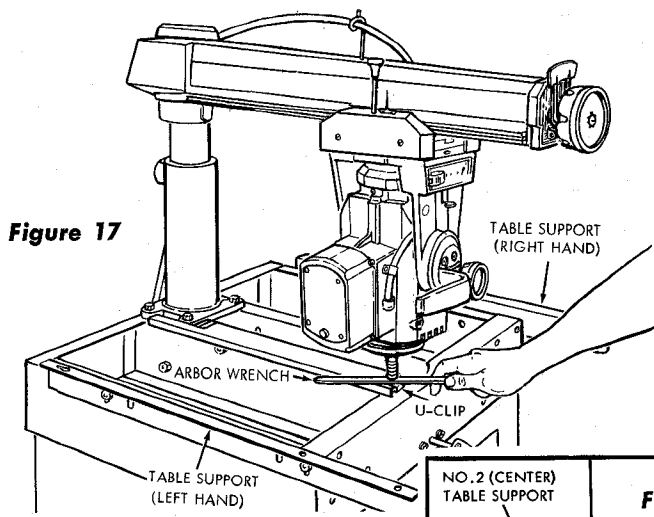
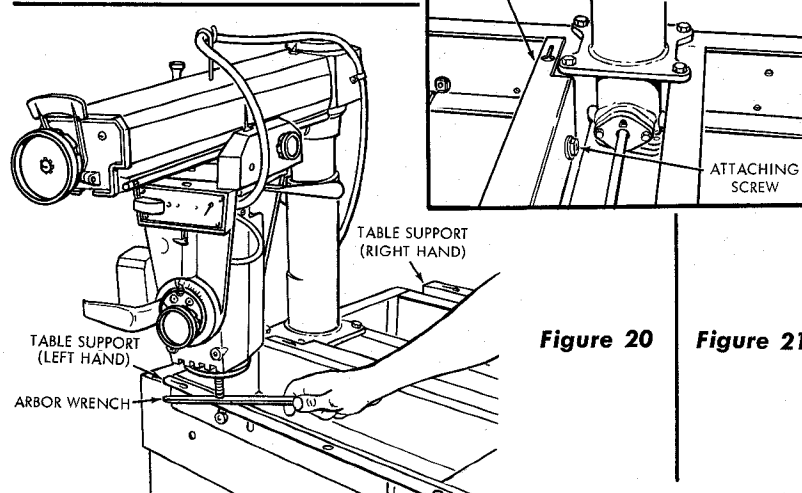

Figure 17
Figure 19
- d. The forward end of the No. 2 (center) table support is anchored to the saw base with a slot and, consequently is not adjustable. For this reason, this location is the starting point for adjusting all of the table supports. (See figure 17.)
- e. Move the carriage and swing the radial arm until the end of motor shaft is positioned directly over the U-clip, located on the outer end of table support No. 2. Place the arbor wrench near the U-clip, then, with the elevation crank, lower the carriage until the end of the shaft just touches the arbor wrench. (See figure 17.)
- f. Carefully adjust the motor up or down with the elevation crank until the arbor wrench (being used as a "Feeler") slides back and forth with only slight resistance. (See figure 17.)
- h. Recheck the front position (figure 17), since a change at the rear could slightly affect the front setting. Check back and forth until both front and rear positions are exactly the same height. Tighten the attaching screw and nut (figure 19).